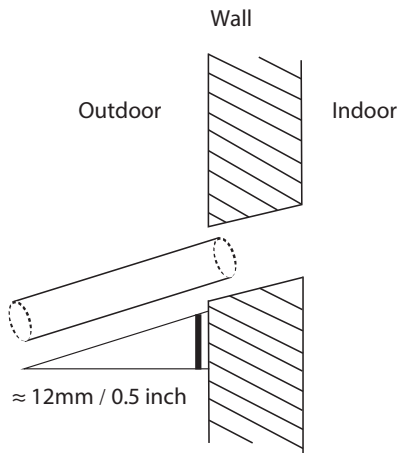

Fig. 6.5
- Using a 65-mm (2.5") core drill, drill a hole into the wall. Be sure that the hole is drilled at a slightly downward angle, so that the outdoor end of the hole is lower than the indoor end by about 12-mm (0.5"). This will ensure proper water drainage (See Fig. 6.5). Place the protective wall cuff into the hole. This protects the edges of the hole, and will help seal it once installation is completed.